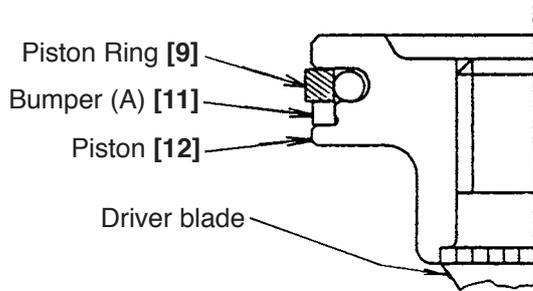

Fig. 13
- Mount Bumper (A) [11] to the Piston Ring [9] at the driver blade side (lower) (Fig. 13).